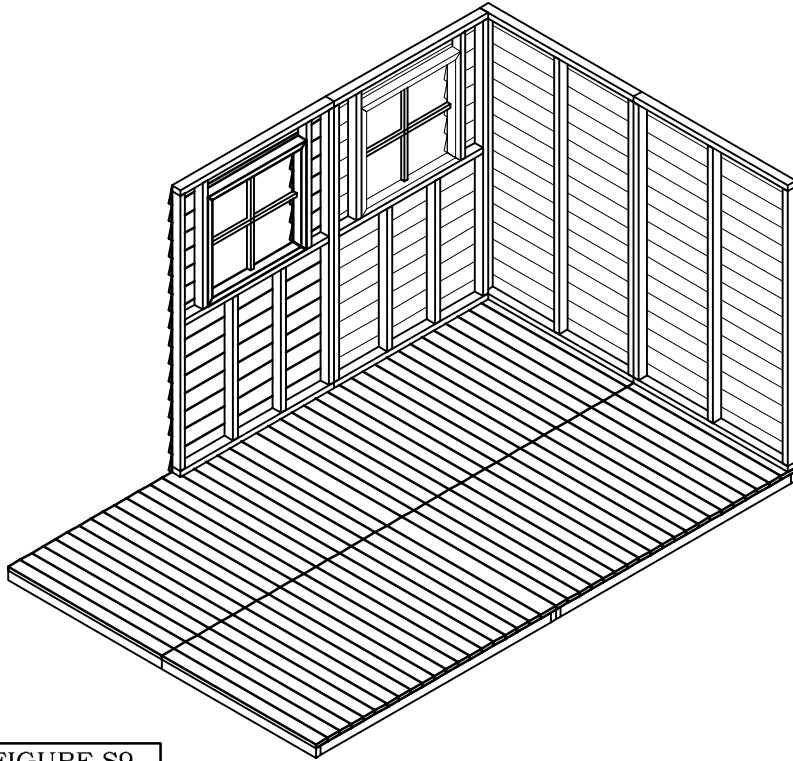

FIGURE S9
- Attach the side wall panels one at a time, making each flush with the rear wall. The side wall 2x3 end piece should meet the rear wall in a butt end joint as shown in Detail 5. Continue connecting the other side wall panels as shown in Figure S9.